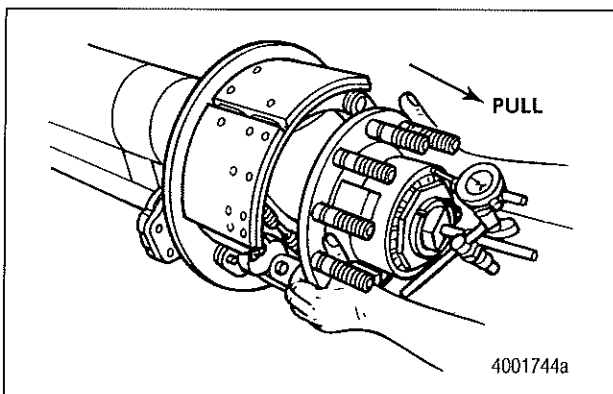

Figure 29
- C. Slightly rotate the wheel end in both directions while pulling outward until the dial indicator does not change. Figure 29.